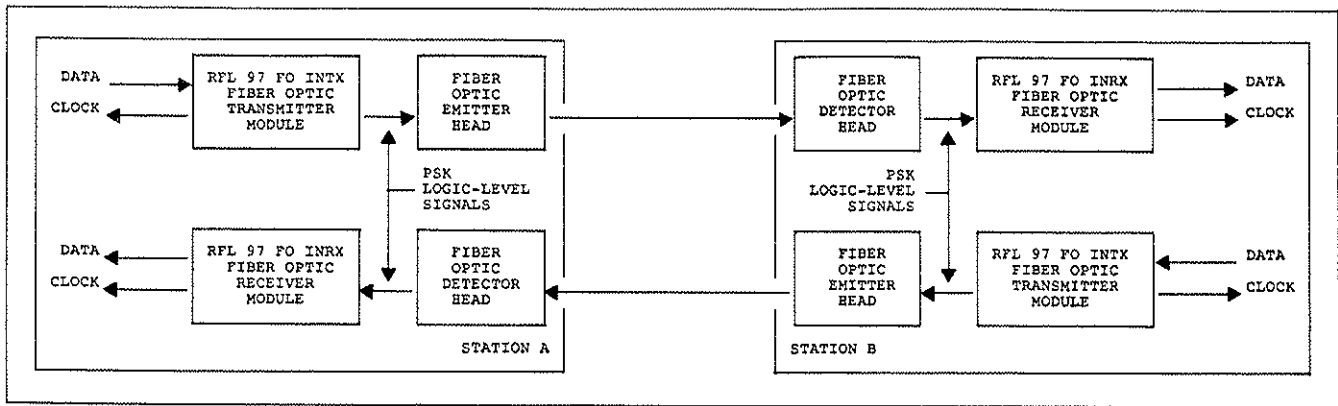
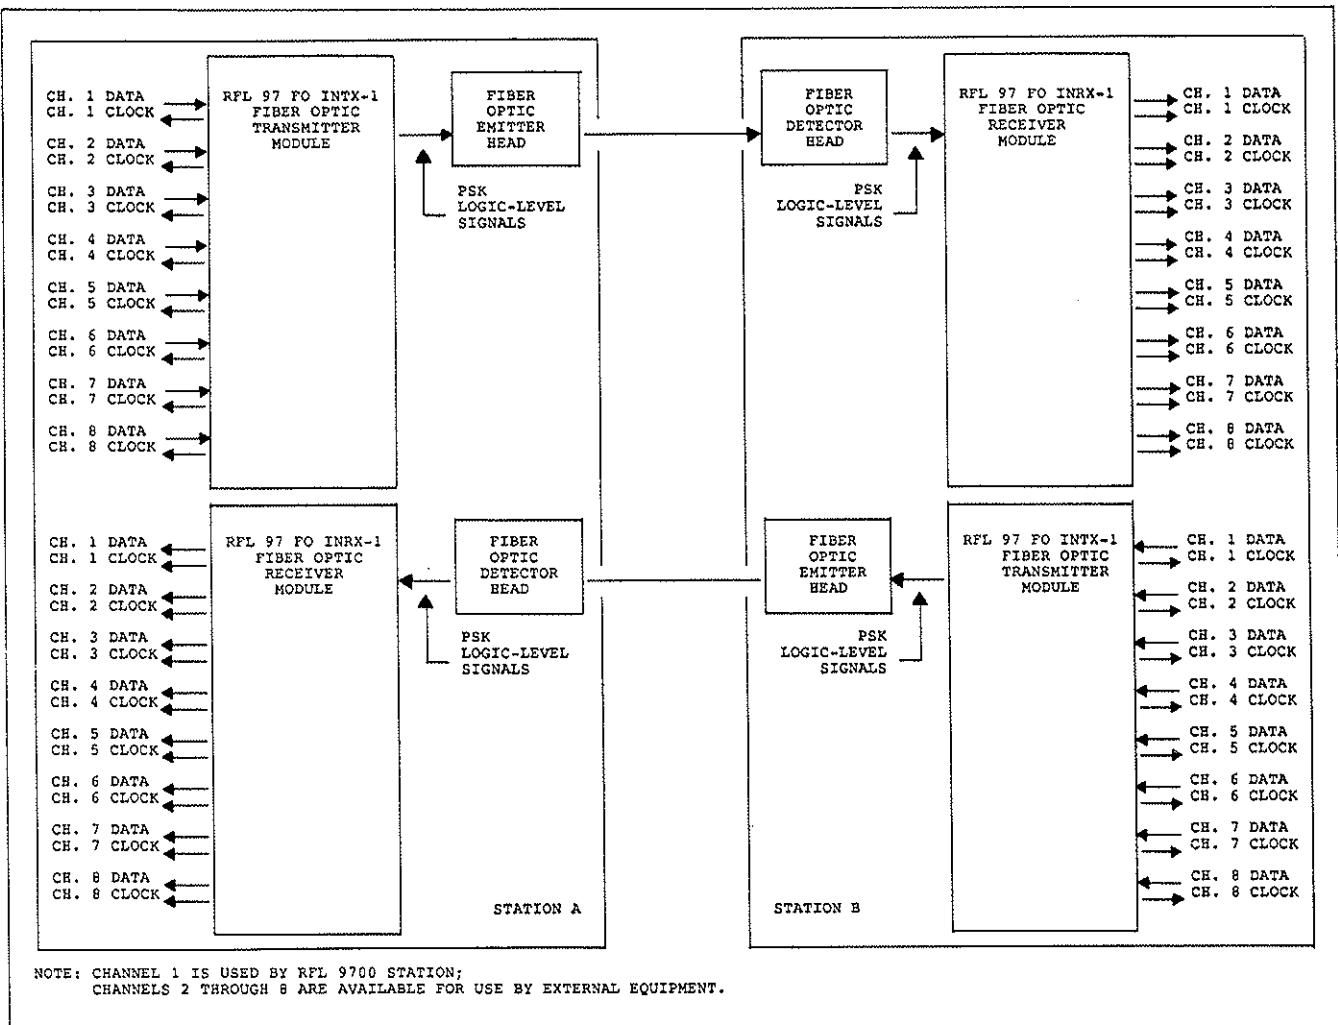

Figure 1-6. RFL 9700 single-channel fiber optic communication system
Figure 1-7. RFL 9700 eight-channel fiber optic communication system
i. Fiber Optic Interface Assemblies. The following fiber optic interface assemblies are available for interfacing the RFL 9700 to fiber optic cables. Block diagrams showing the relationship between these assemblies appear in Figure 1-6 (single-channel) and Figure 1-7 (eight-channel).
(1) Fiber Optic Transmitter Modules. The RFL 97 FO INTX accepts the signals generated by the digital transmitter module and conditions them for optic transmission. Multiplexer circuits on the RFL 97 FO INTX-1 allow up to eight 56-Kbps channels to be multiplexed and transmitted over a single fiber. Section 13 of this manual provides additional information on both fiber optic transmitter modules.
(2) Fiber Optic Receiver Modules. The RFL 97 FO INRX accepts an input from a fiber optic detector head and converts it back into the RS-422 signals that can be processed by the digital receiver module. The RFL 97 FO INRX-1 contains eight de-multiplexer circuits, which allow the RFL 9700 terminal to isolate one of up to eight 56-Kbps channels that are multiplexed and transmitted over a single fiber. Section 14 of this manual provides additional information on both fiber optic receiver modules.
(3) Fiber Optic Heads. Each RFL 9700 fiber optic module uses an optic head, which is mounted at the rear of the RFL 9700 chassis. This allows the fiber optic modules to be removed without drawing the fiber through the chassis.